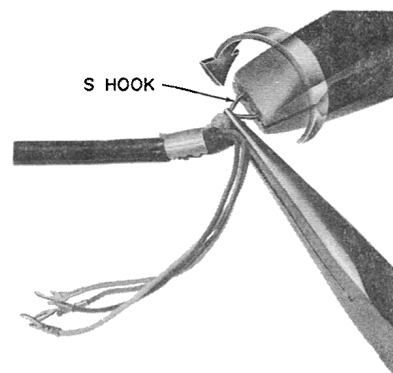

Fig. 34 — Bending S Hook
- (2) Using long-nose pliers and 8-inch side cutters or equivalent (Fig. 34), turn large eye of S hook clockwise until positioned 90 degrees away from small eye of S hook.